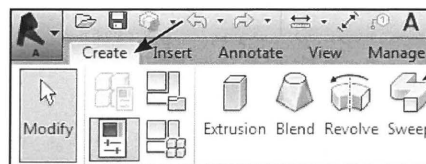

Fig. 04.94. Create - Sweep.
- Klik *Create - Sweep* (Fig. 04.94).